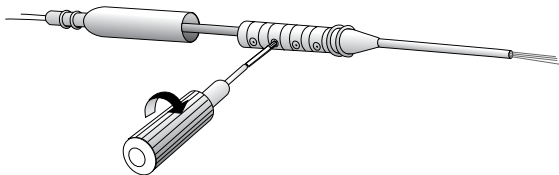

Figure 21. Tighten setscrews.
4. Tighten each of the four setscrews by turning them clockwise in the setscrew sockets with the torque wrench provided (Figure 21). Tighten each setscrew only until the torque wrench clicks.